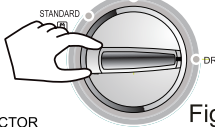

Figure 5
6. After washing, Set the "WASH SELECTOR" at "DRAIN". (Figure 5).